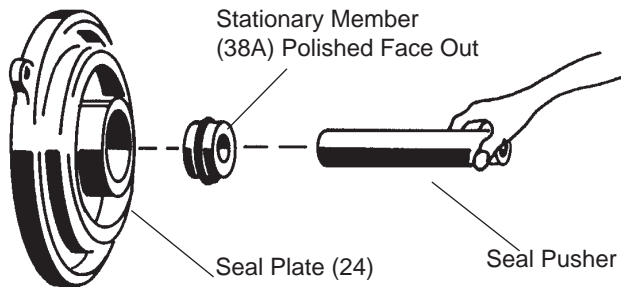

FIGURE 4
Seal - Clean and oil seal cavity in seal plate (24). Press stationary member (38a) firmly into seal plate (24), using a seal pusher, nothing but the seal pusher is to come in contact with seal face (See Figure 4). Make sure the stationary member is in straight.